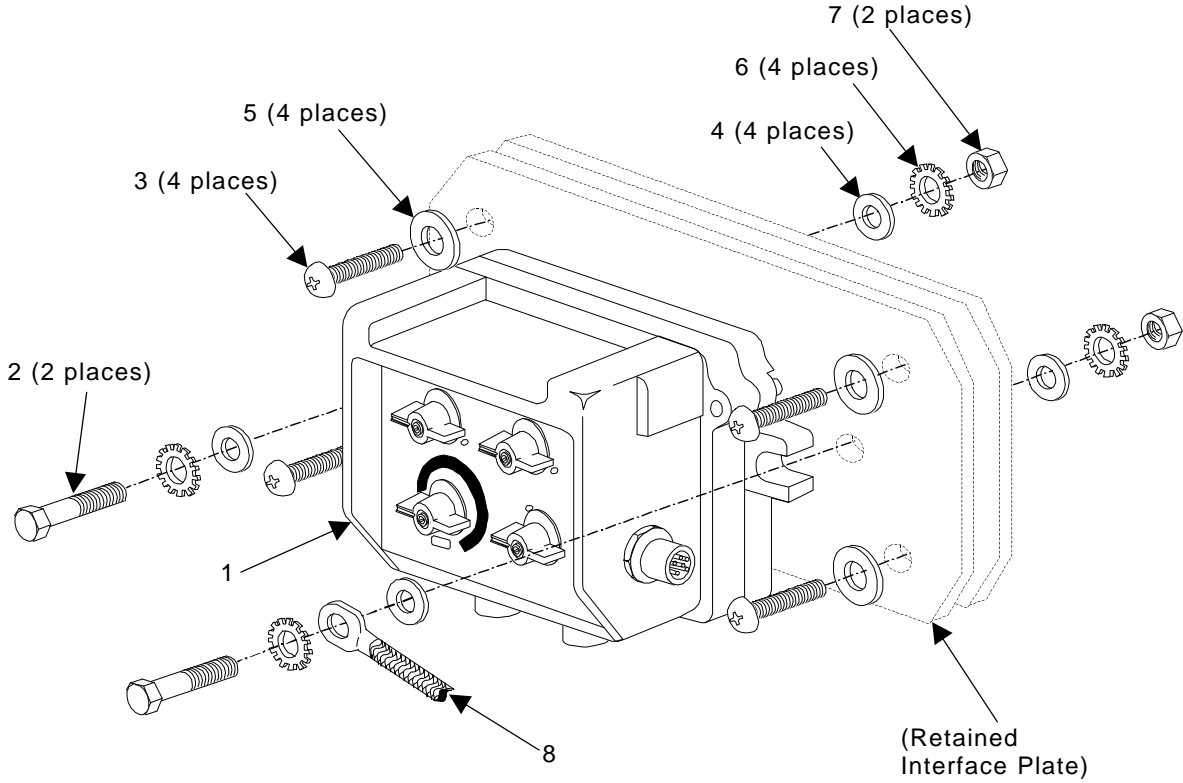

Figure 4-4. Chief's, Driver's, and Gunner's FFCS Installation
- a. Install and secure the FFCS's to the retained interface plates and brackets in the sequence(s) shown in Figure 4-4 using the parts listed in Table 4-2 and the following tools: